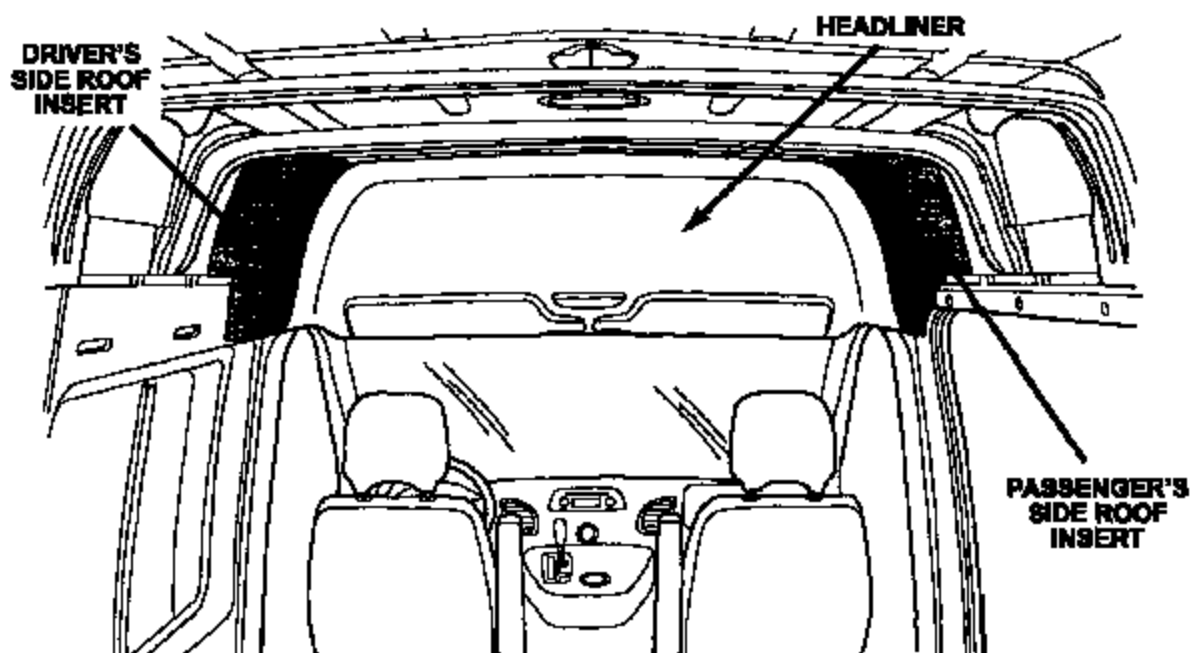

Figure 1 – High Roof Model Shown
1. Open the rear doors and inspect for black roof foam inserts located just behind the front seats near the roof (Figure 1).
- If the roof foam inserts are present on both sides as shown in Figure 1, no further action is required. Return the vehicle to the customer.